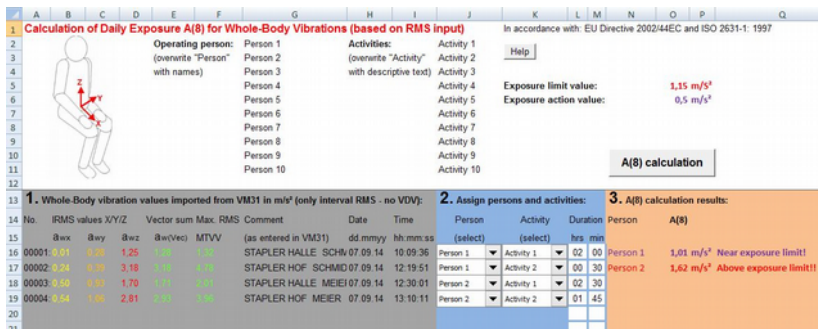

Figure 48: Daily exposure calculation in Excel
Click “A(8) calculation” or, in the case of VDV, “Daily exposure calculation” to calculate the vibration exposure (Figure 48). The result(s) will be compared with the limits stated in the EU directive 2002/44/EC and are displayed in various colors: